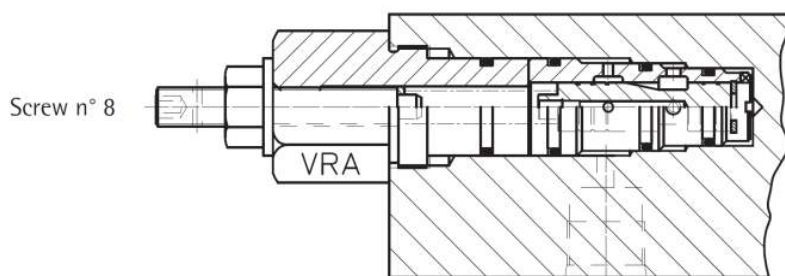

Figure 51 – VRA Group: down travel balancing screw n°8
- Unscrew the screw n°2 to increase lightly the low speed. Close the main shut-off valve, unscrew the screw n°3, discharge pressure with hand button, disassemble and clean the group VRA, the down travel balancing valve – screw n°8 (see Figure 51).